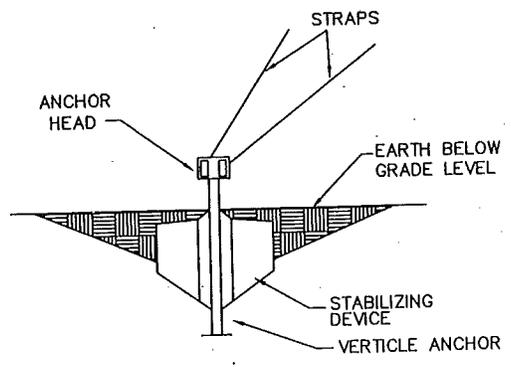

FIGURE 73
4. EACH OF THE STRAPS AND CONNECTIONS TO THE I-BEAM MUST HAVE AN ULTIMATE STRENGTH OF 4725 LBS. SEE FIG. 73 & 73.